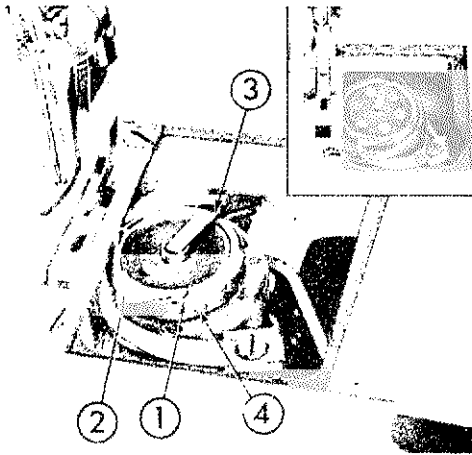

Fig. 9
9. How to insert the bobbin into the bobbin case and passing the bobbin thread (Fig. 9)
The tension of the bobbin thread is adjusted by turning the screw (Fig. 9 ㉔) on the outside of the bobbin case. If this screw is turned to right, the tension gets stronger and if turned to left, it gets weaker.